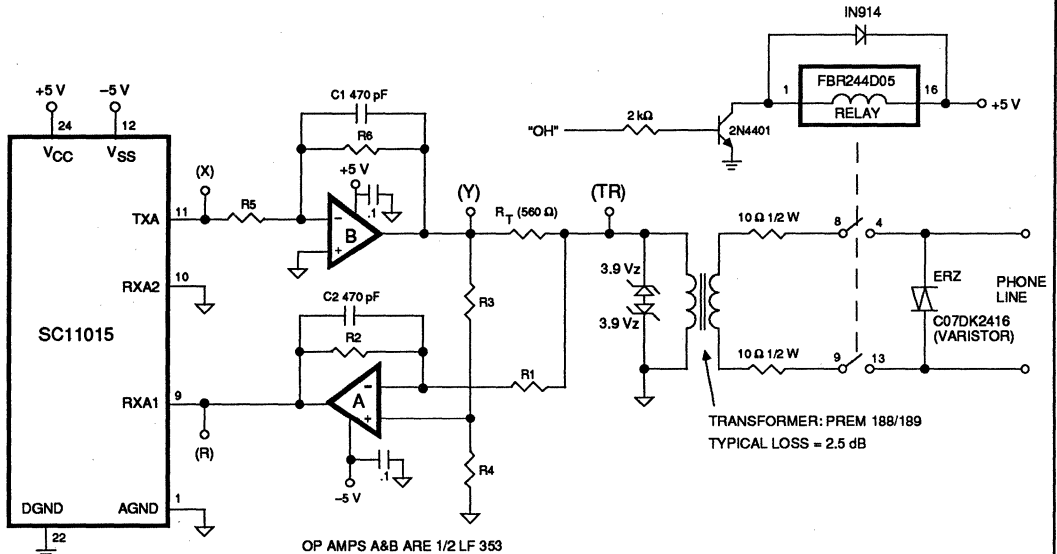

Figure 2. Using an External Hybrid with the SC11015
The external hybrid circuit uses two operational amplifiers, one in the transmit path and the other in the receive path. The SC11015 internal transmit stage provides a gain of 6 dB over the transmit signal level desired at the line. For example, if the TLC1, TLC0 level control codes are set to 0 and 1 respectively so as to obtain -9 dBm at the line, the chip actually puts out -3 dBm at the TXOUT pin (pin 11). Under ideal conditions, with no loss in the transformer and perfect line matching, the signal level at the line will then be the desired -9 dBm. In practice however there is impedance mismatch and a loss in the coupling transformer. Therefore it may be desired to provide a gain in the transmit and receive paths to overcome the loss. The receive gain G_R and transmit gain G_T are set by the ratios of resistors R2, R1 and R6, R5 respectively (Figure 2).
It should be noted that the transmit amplifier is only needed to overcome the loss in line coupling. It can be eliminated since the transmit signal level specification is typically stated as a maximum. Amplifier B, resistors R5 and R6 and capacitor C1 can be eliminated and point X connected to point Y in the circuit of Figure 2 to achieve a more cost effective external hybrid arrangement.
- Instructions to the modem IC (See Note 1 and 2). Data on the DI/O pin shifted into the modem when \overline{WR} is low, on rising edges of the SCK clock. Data is transferred into a latch when \overline{WR} goes high. (See Figure 2 for write cycle waveforms). Up to 7 data bits (D0–D6) can be sent to the device. These bits control the operating modes of the modem as shown below: